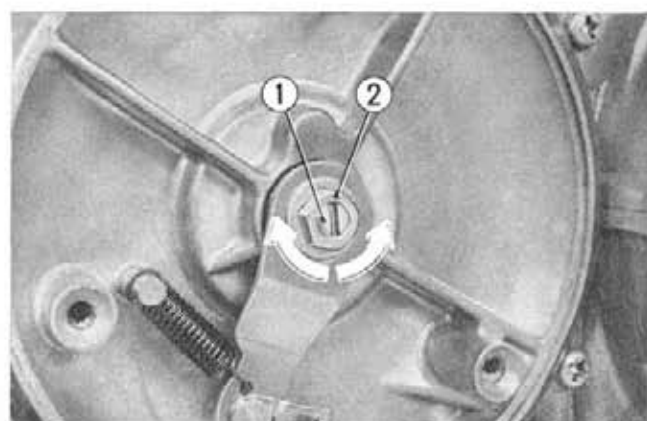

Fig. 19-13 ① Clutch adjusting screw
- c. Remove the clutch cover, loosen the clutch lifter adjusting screw lock nut, turn the clutch adjusting screw in the clockwise direction until a slight resistance is felt. From this position, turn the adjusting screw in the counter clockwise direction $1/4 \sim 1/2$ turn. Tighten the lock nut. (Fig. 19-13)